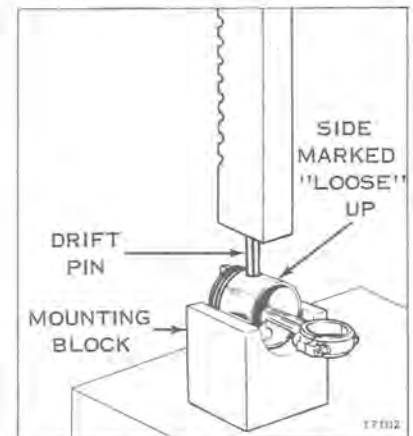

Figure 9-7
- m. If necessary to remove connecting rods from pistons, remove wrist pin retaining rings, using screwdriver in slot in position. Press out wrist pin to free piston from connecting rod. Piston wrist pin hole marked "Loose" should be up when pressing out wrist pin to prevent piston damage. See Figure 9-7.